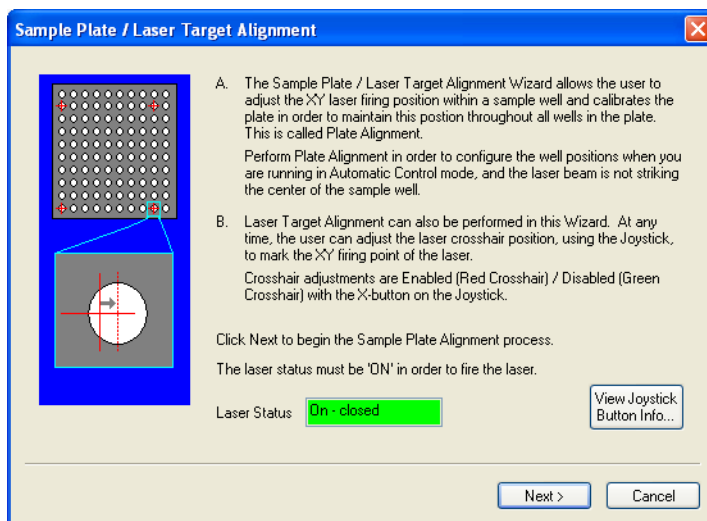

Figure 4-3 Sample Plate / Laser Target Alignment Wizard
1. Select **Plate > Align Sample Plate**. The Sample Plate / Laser Target Alignment wizard opens (Figure 4-3).